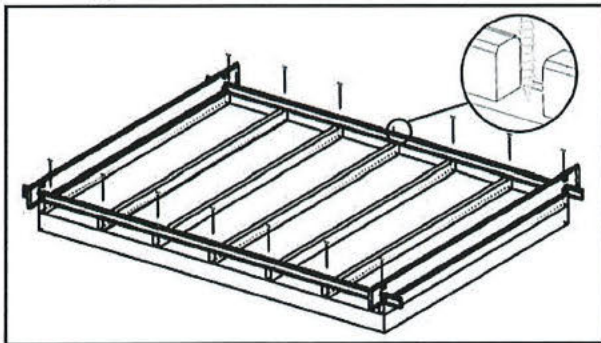

FIG 2
2. 28,34 44 70 log buildings The external walls parallel to the joists have two joists as in fig2 and need to be fixed together using 70mm nails at a slight angle. This also applies to partition walls.
2. Firstly position the half logs as shown (fig 2) on top of the floor bearers
3. Next position 2 logs from the adjacent sides either end of the half logs. Fig 2